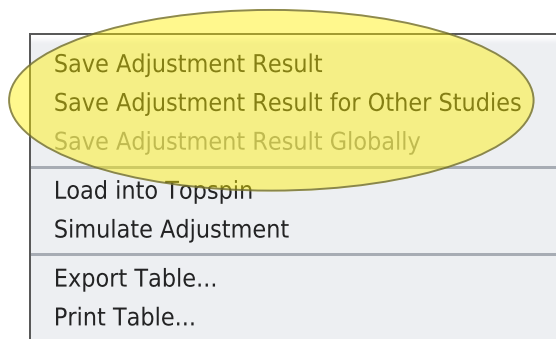

Figure 1.53: Context Menu Adjustment Platform
- ▶ Open the context menu (see [Figure 1.53 \[p. 71\]](#)) on the currently edited adjustment and invoke one of the Save Adjustment Result... actions.